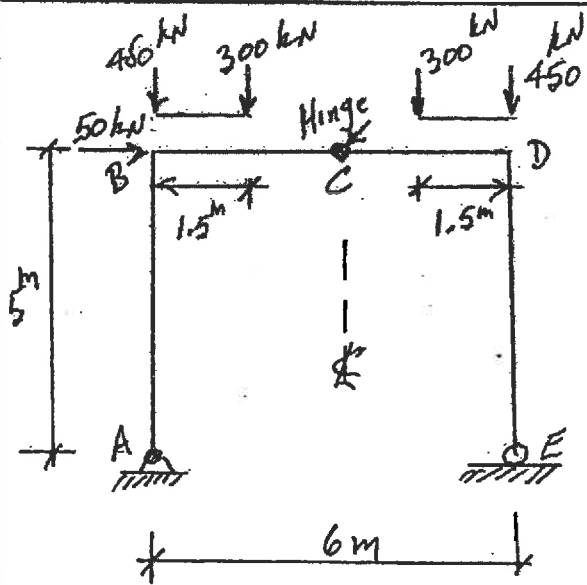

FIGURE B1
- B1. Figure B1 shows the profile of a determinate reinforced concrete frame, ABCDE. Design a rectangular cross-section and the reinforcing for flexure and shear of beam BCD and the corner connection at B. Show the layout of the reinforcement. Use $f'_c = 35$ MPa and $f_y = 400$ MPa.
- B2. For the reinforced concrete frame in Figure B1, design the column AB, assuming that the column is short. Use $f'_c = 35$ MPa and $f_y = 400$ MPa.